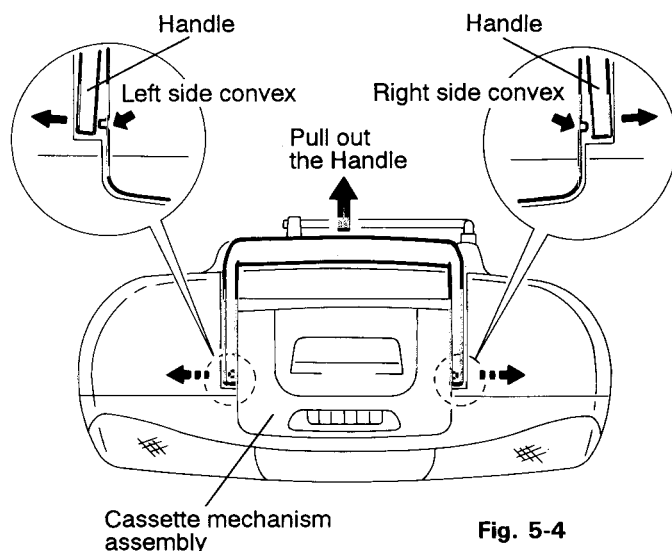

Fig. 5-4
■ Removing the handle (See Fig. 5-4)
1. After spreading the rear cabinet in each arrow direction, disengage the engagements of handle with the right and left convex sections of the cassette mechanism assembly as shown in Fig. 5-4.